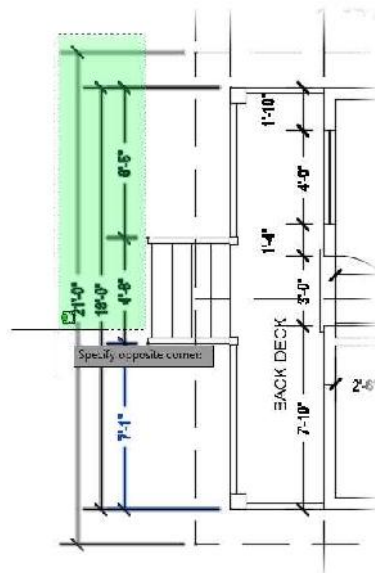

FIGURE 12.50: Selecting the remaining deck dimensions to adjust the spacing
5. Select the remaining dimensions for the back deck, as shown in Figure 12.50, and press ↵.